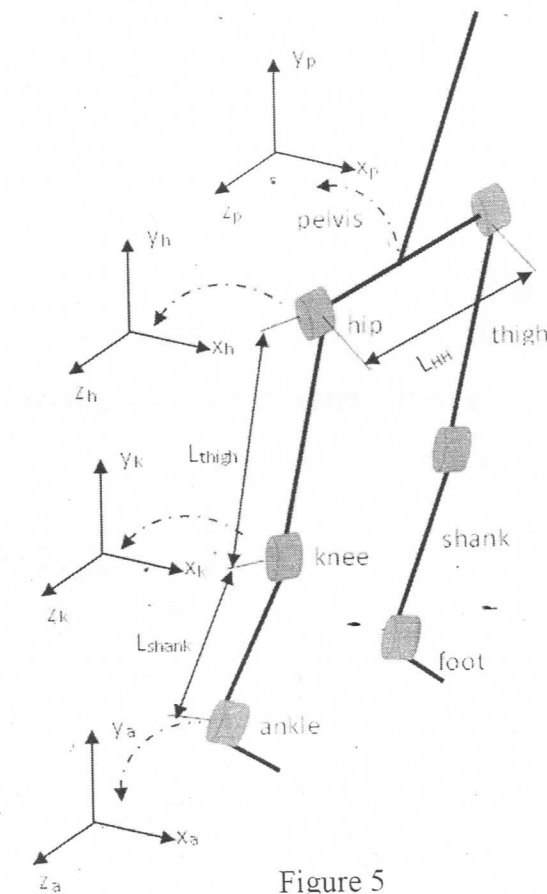

Figure 5
A humanoid robot is shown in Figure 5; the schematic 3-D model of the biped robot and its DOFs is shown in the Figure. Assuming all the joints are revolute and the length of the thigh, shank and between the two hips (HH) are  $L_{thigh}$ ,  $L_{shank}$ , and  $L_{HH}$  cm, respectively as shown. The weight is concentrated at the motor of each joint,  $m_{hip}$ ,  $m_{knee}$ ,  $m_{ankle}$  for the hip, knee and ankle, respectively.